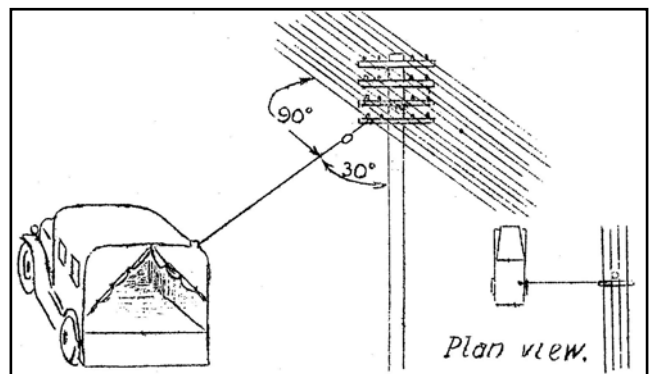

Fig.1 Typical example of Line Assisted Wireless Method 'a'.
- (i) Site the set adjacent to the overhead route as shown in Fig.1. Ordinary service sets may be used without modification. The normal 12 ft rod or a short length of wire is used as an aerial.
- (ii) Move the W/T set away from the route (at a right angle from the route) until the wire from the arm, when connected to the set or aerial connection on the vehicle, makes an angle of approx 30° with the ground. Fig.1 illustrates a typical case.